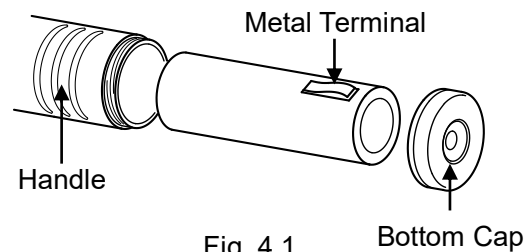

Fig. 4.1
- (1) Remove the Bottom Cap from the Handle by turning counter-clockwise.
- (2) Remove old battery.
- (3) Insert the new battery with the Metal Terminal toward the Bottom Cap (see Fig. 4.1).
- (4) Screw the Bottom Cap shut by turning clockwise.